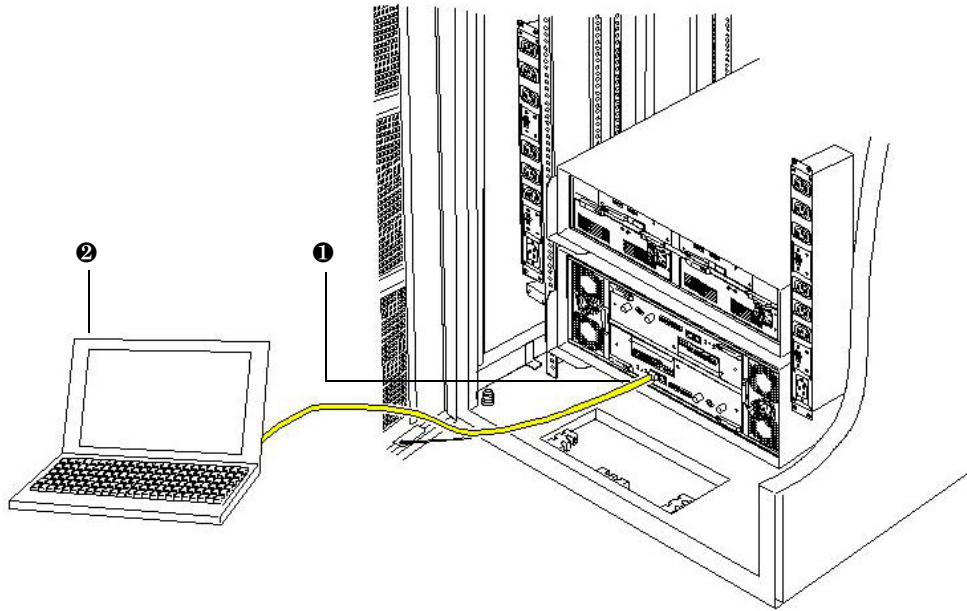

Figure 1-9: Example of Directly Connecting to a Management Port
- ❶ Expansion units (ENC0, ENC1)
- ❷ Base unit (Controller 1)
- ❸ Base unit (Controller 0)
- ❹ PATH#1 port on base unit
- ❺ PATH#0 port on base unit
- ❻ IN port on expansion unit
- ❼ OUT port on expansion unit
- A direct connection lets you configure one controller at a time (see Figure 1-9 on page 14).